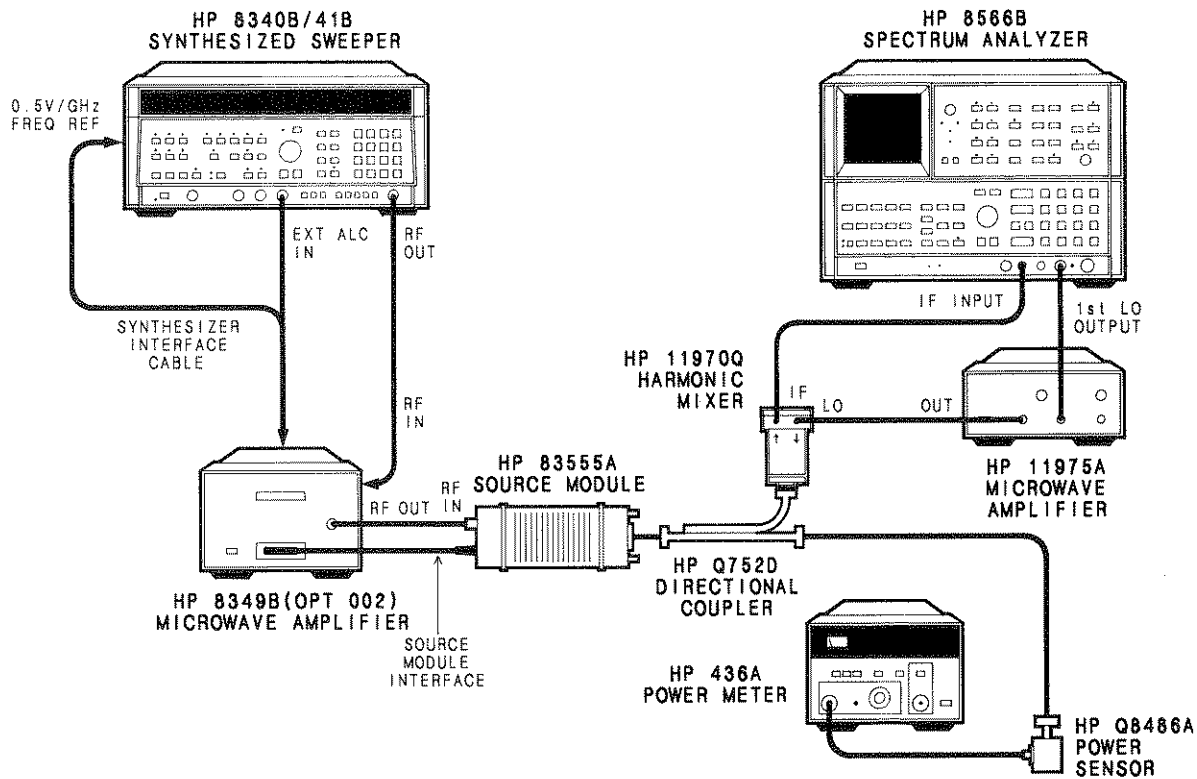

Figure 2-7. Spurious Signals Test Setup
The RF output signal from the HP 8340B/41B/83555A system is tuned from 33.0 to 50.0 GHz and is displayed on a spectrum analyzer to verify that any harmonic spurious signals are at or below their specified levels. The test configuration in Figure 2-7 uses an external harmonic mixer to extend the frequency range of the spectrum analyzer. When this technique is used, the response is not pre-selected and multiple signals are displayed. Each response is examined not only for power relative to the fundamental frequency but whether or not it is a true in-band spurious signal by using the spectrum analyzer's signal identification function.
1. Connect the equipment as shown in Figure 2-7.
Because the test configuration in Figure 2-7 specifies that the external mixer be connected to the coupled arm of a 20 dB directional coupler, the coupled power must also be taken into account when calculating reference level offset. The new equation is as follows: